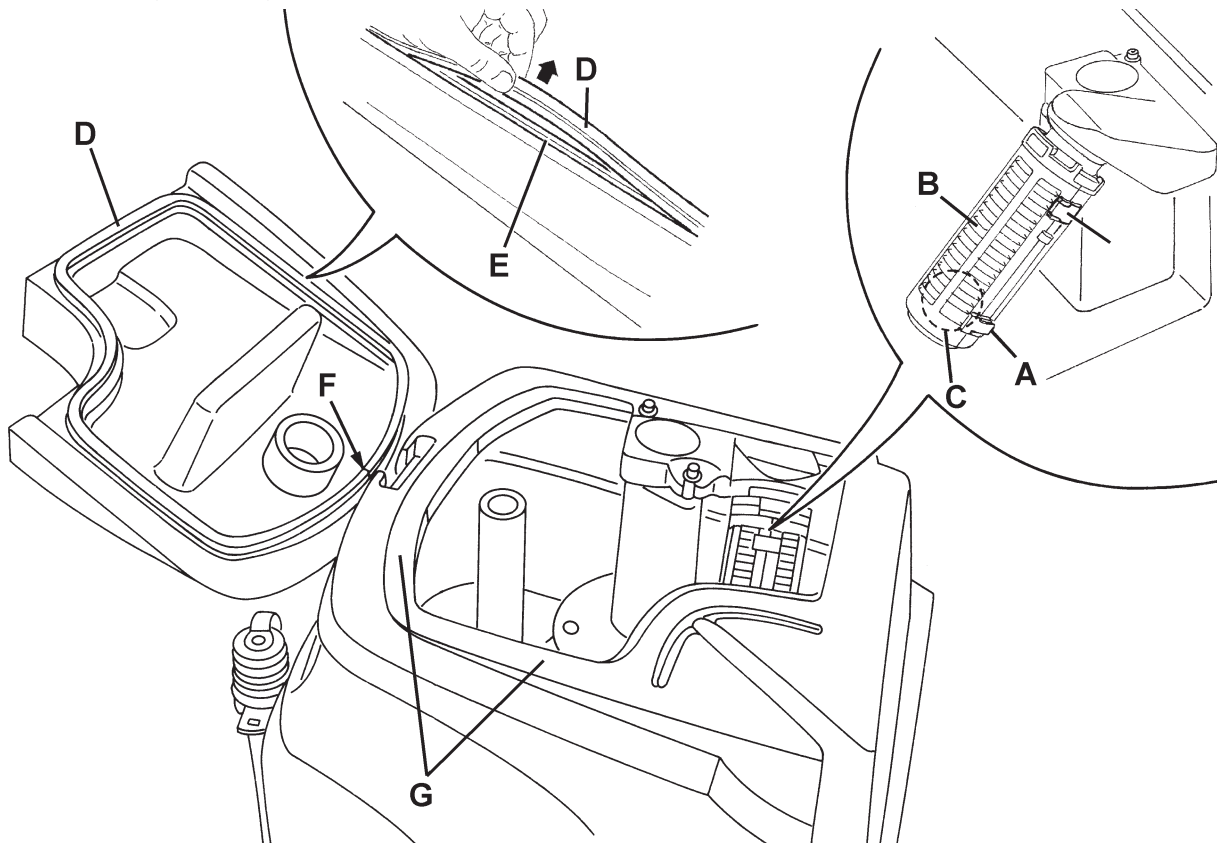

Figure 4
2. Turn the ignition key (41) to "0".
4. Wash with clean water the covers (51 and 58), the tanks (60 and 61) and the vacuum grid with automatic shut-off float (54). Drain the water from the tanks with the hose (10) and the tap (24).
5. If necessary, release the fasteners (A, Fig. 4), open the grid (B) and recover the float (C), clean all the components and then reinstall them.
6. Check the tank cover gasket (D) for integrity.